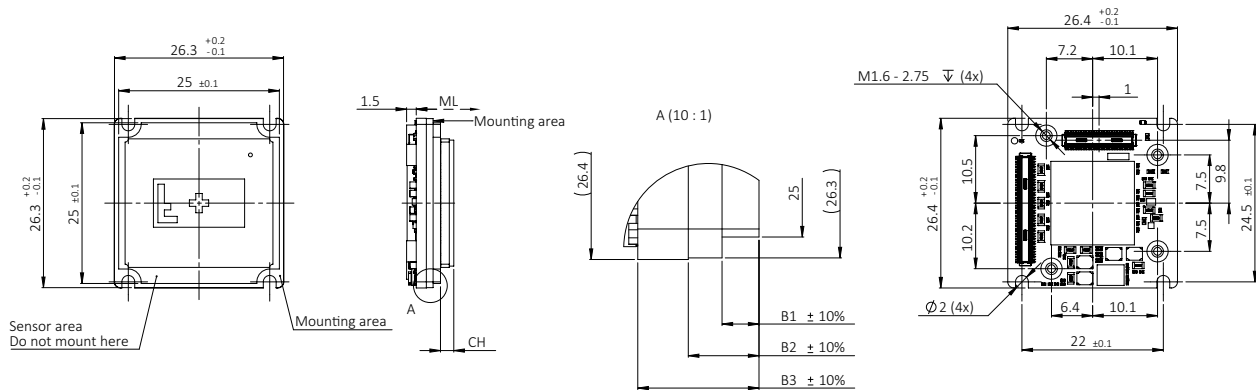

Figure 69: Bare Board (Alvium Flex) dimensions
Dimensions that are common between different models are shown in Figure 69. Model specific dimensions are listed in Table 82. **Mechanical length (ML)** defines the mechanical distance from the mounting area to the lens mount front flange, without optical filter. **Components height (CH)** relates to the electronic components with maximum height, in some cases the sensor.